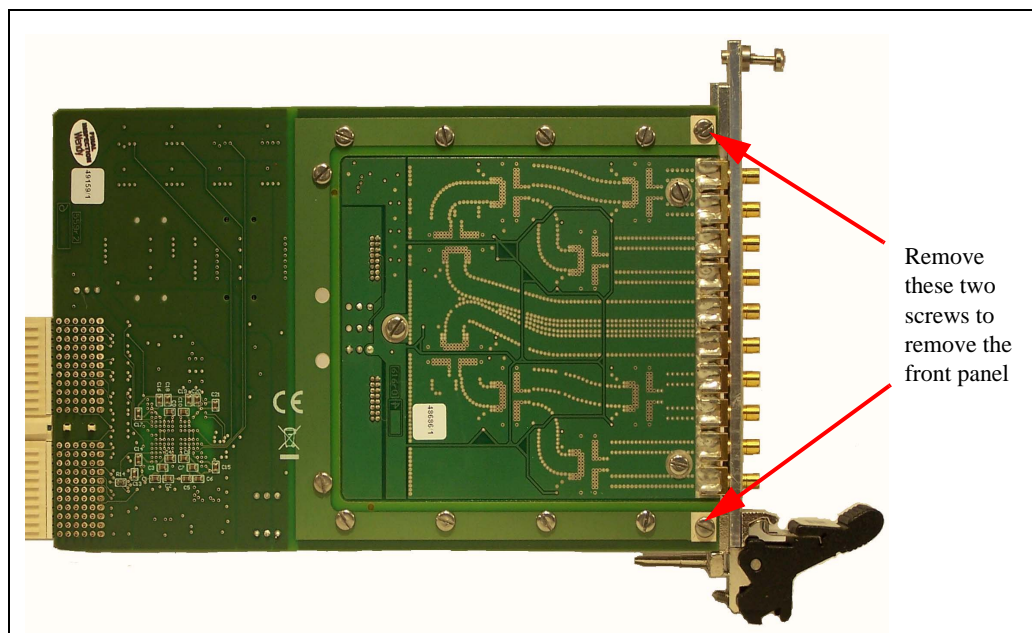
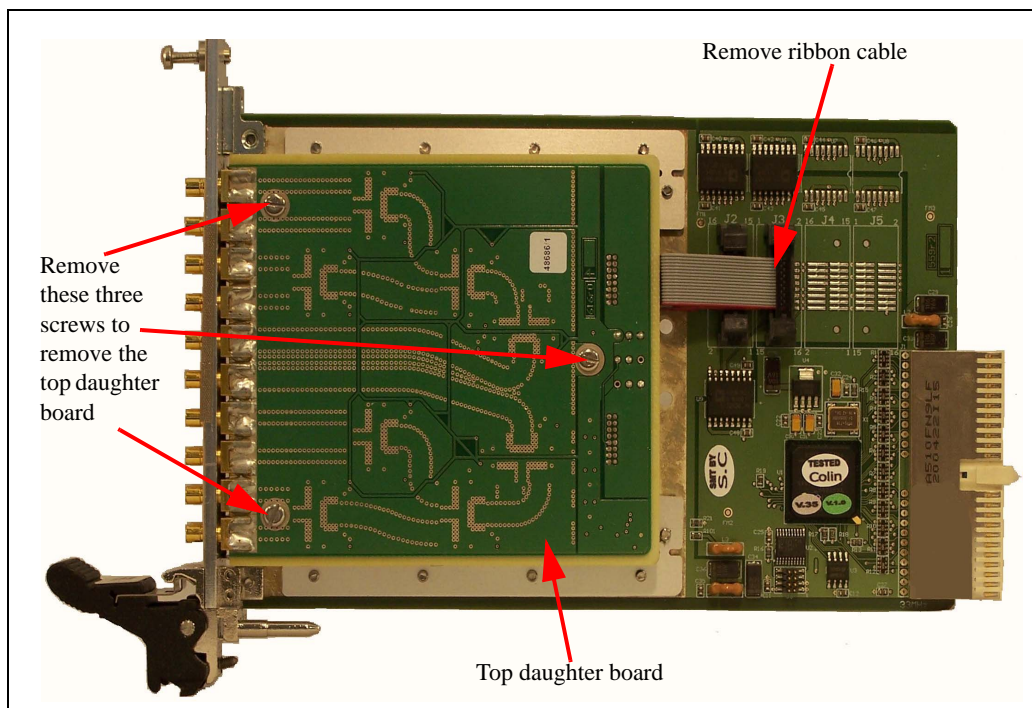

Figure 41 Remove module front panel
Figure 42 Top side of RF Multiplexer module
Please read all disassembly steps prior to starting the disassembly. Refer to Figure 41 and Figure 42 with the following disassembly steps.
- 1 Although it is not necessary, it is generally advisable to remove the front panel first. Remove the two screws indicated in Figure 41. Carefully slide the front panel away from the PC boards and SMB connectors. This is especially important on the M9149A and M9153A modules.
- 3 Remove the three screws indicated in Figure 42.
- 1 Although it is not necessary, it is generally advisable to remove the front panel first. Remove the two screws indicated in Figure 41. Carefully slide the front panel away from the PC boards.